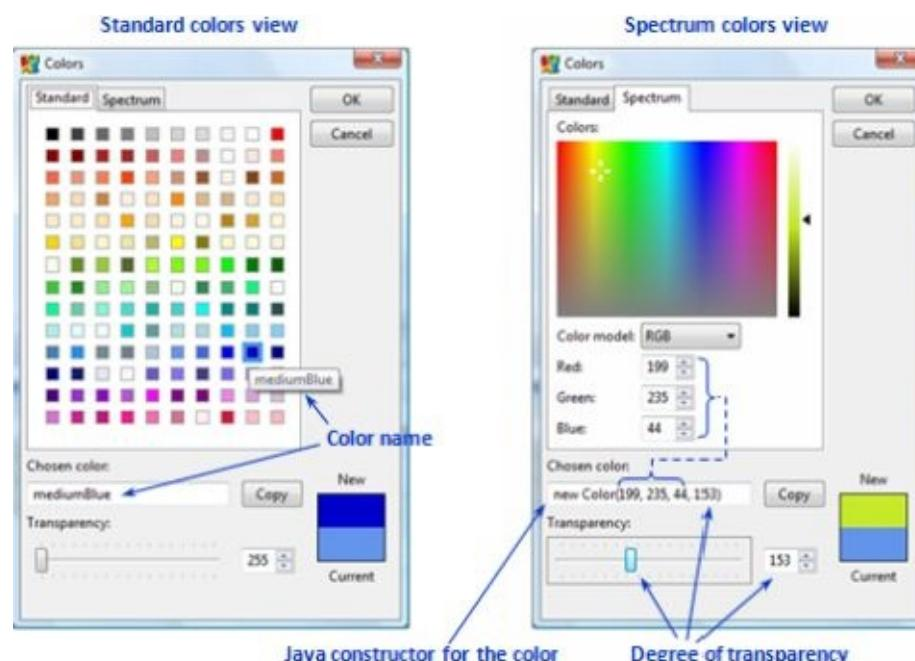

Figure 12.56 AnyLogic color picker
3. Adjust the sizes of the circles as shown in Figure 12.56.